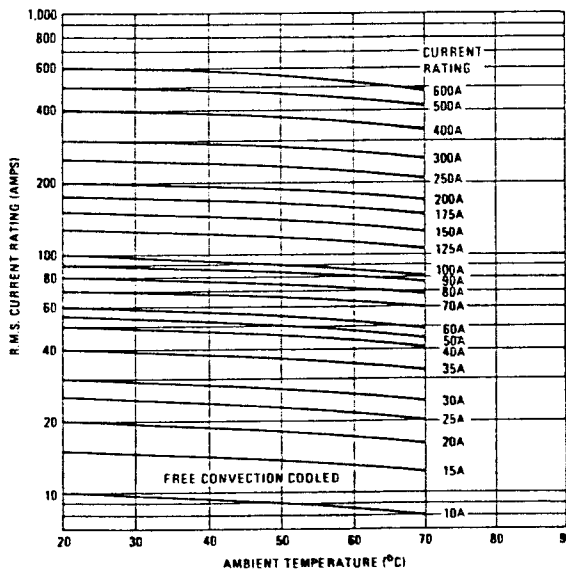

Fig. 3 — Maximum RMS Continuous Current Vs. Ambient Temperature
② ± 10% tolerance.
③ At maximum rating shown on Figure 3 @ TA = 25°C.